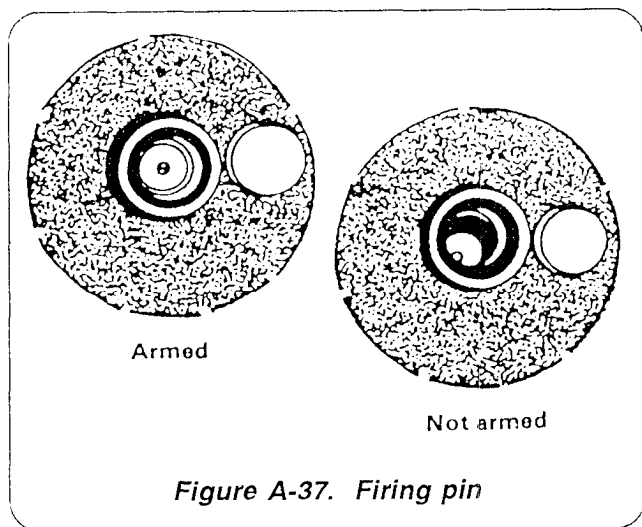

Figure A-37. Firing pin
**2. Test the position of the firing pin (Figure A-37).**